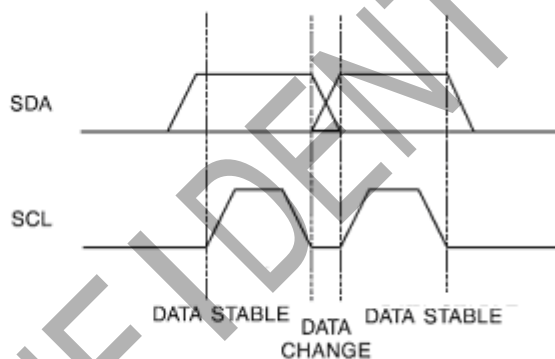

Figure 3: Clock and Data Transitions
- ✧ START CONDITION: A high-to-low transition of SDA with SCL high is a start condition which must precede any other command. (Figure 3).
- ✧ STOP CONDITION: A low-to-high transition of SDA with SCL high is a stop condition. After a read sequence, the stop command will place the EEPROM in a standby power mode. (Figure 3: Clock and Data Transitions).